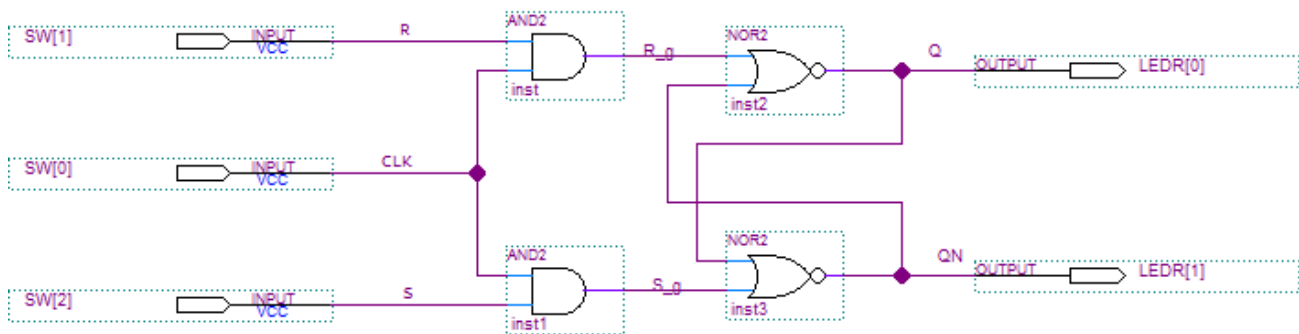

Figure 1. A transparent SR latch circuit
Analyze the cross-coupled NOR gates of the Transparent (called “Gated” by Roth) SR Latch in Figure 1 with inputs  $R\_g$  and  $S\_g$  and outputs  $Q$  and  $Q_N$ . Construct a truth table with inputs  $R\_g(t)$ ,  $S\_g(t)$  and  $Q(t)$  and outputs  $Q(t+\Delta t)$  and  $Q_N(t+\Delta t)$ , where  $\Delta t$  is the time required for a change of state to occur. Ignore the case when  $S\_g(t) = R\_g(t) = 1$ .
Implement a transparent SR latch storage element built from gates as shown in Figure 1.
2. Enter the schematic shown in Figure 1.